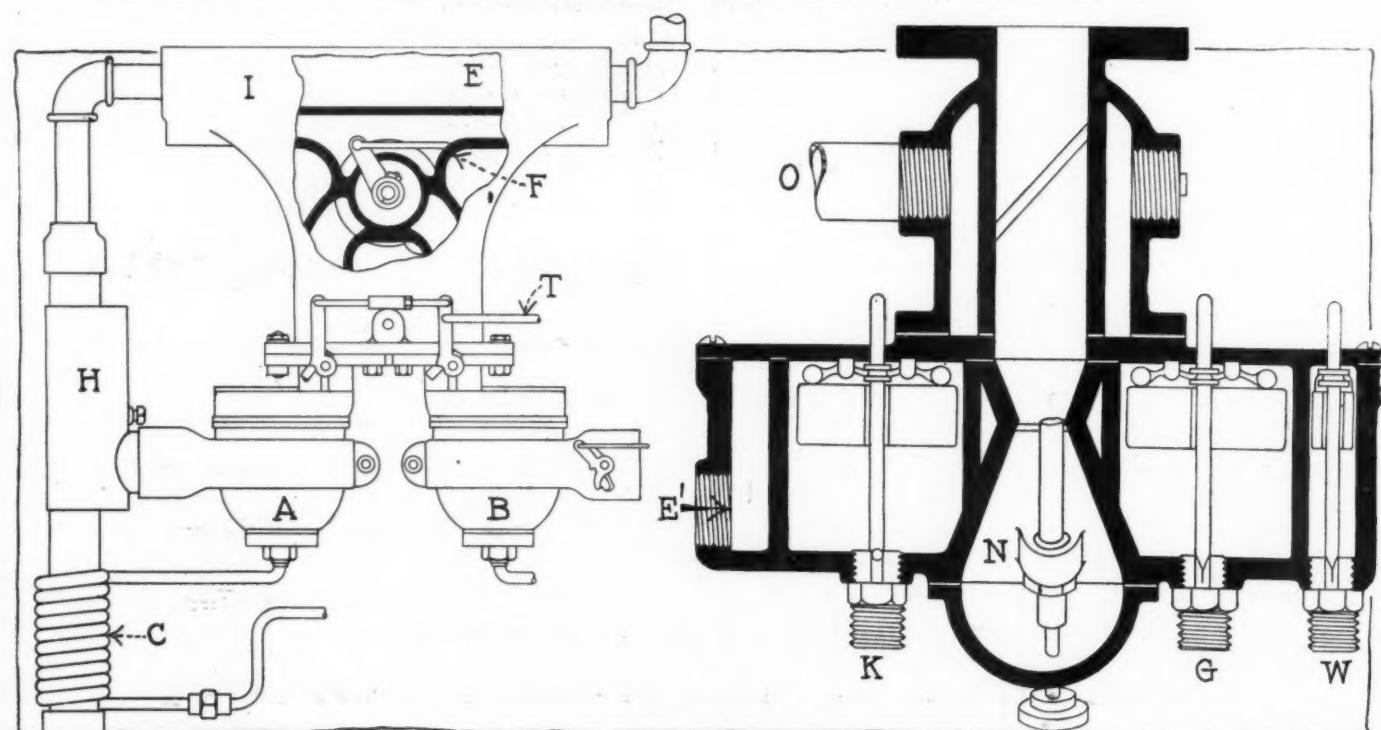

Fig. 8—Walker two-fuel carbureter. Fig. 9—Hampton kerosene carbureter
**Walker Two-Fuel Carbureter**—The O. S. W. Co. Worcester, Mass., makes the Walker Quadruplex Carbureter, Fig. 8, which is so constructed that at any time either gasoline or kerosene may be used for running the motor. The carbureter really consists of two carbureters, one A, for kerosene and the other B, for gasoline. The latter is equipped with the ordinary adjustment devices. Both are operated by the same throttle T, but in addition to the latter there is a fuel control device F, which shuts off the communication between either the gasoline or the kerosene carbureter and the intake manifold. The gasoline is connected to a small gasoline tank in the ordinary manner, while the kerosene is supplied through a coiled copper tube C, which is laid around the outlet of the exhaust pipe, which outlet is downward and surrounded by a hot-air box H, from which heated air is conducted to a jacket laid around the mixing chamber